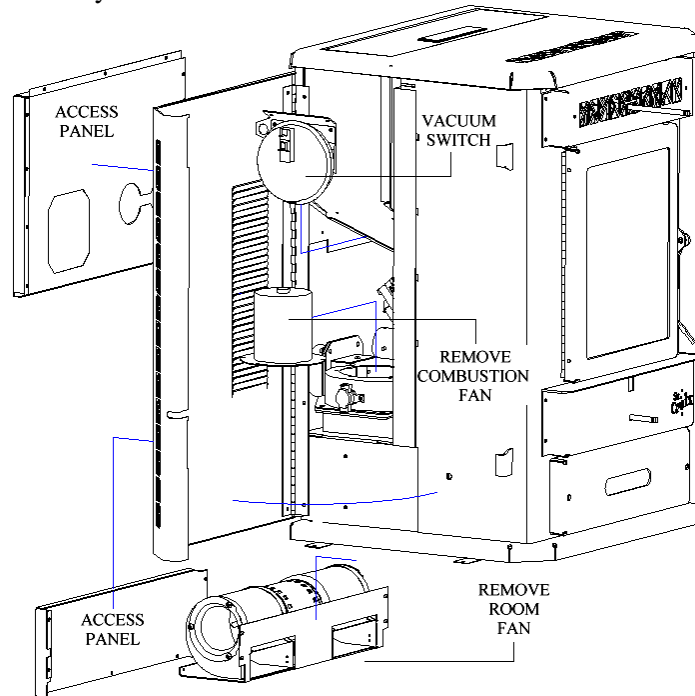

Figure 12
4. The exhaust fan should be removed (may require a new gasket) and cleaned with compressed air annually. Call dealer for this service. Annual oiling of the motors is not needed. (See Figure 12)
5. The Convection Blower should be removed and cleaned with compressed air annually. Annual oiling of the motors is not needed. (See Figure 12)